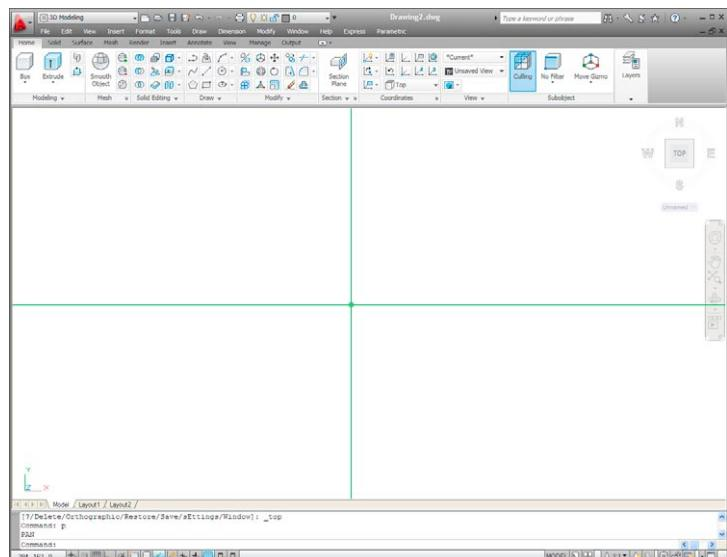

Fig. 15.2 The 3D Modeling workspace
2. The AutoCAD window (Fig. 15.2) appears.